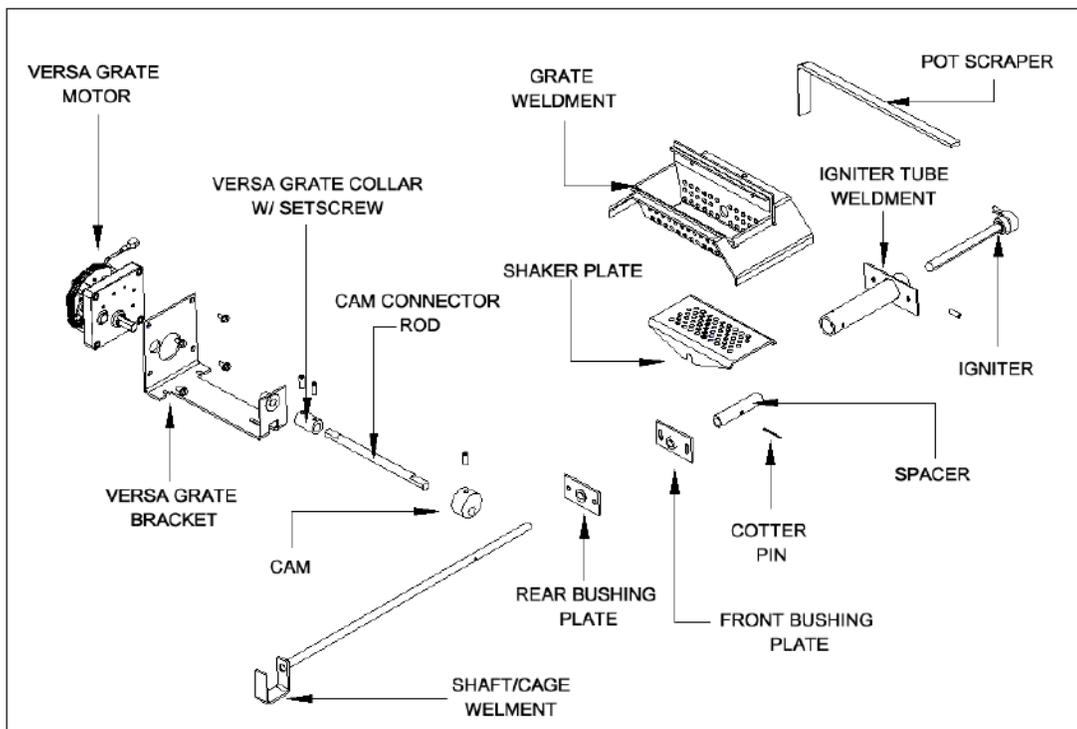

Figure 21
- d. Use the “Pot Scraper tool” provided to move the burning pellets to one side of the grate, leaving the ash in the bottom of the grate. (See Fig 21)